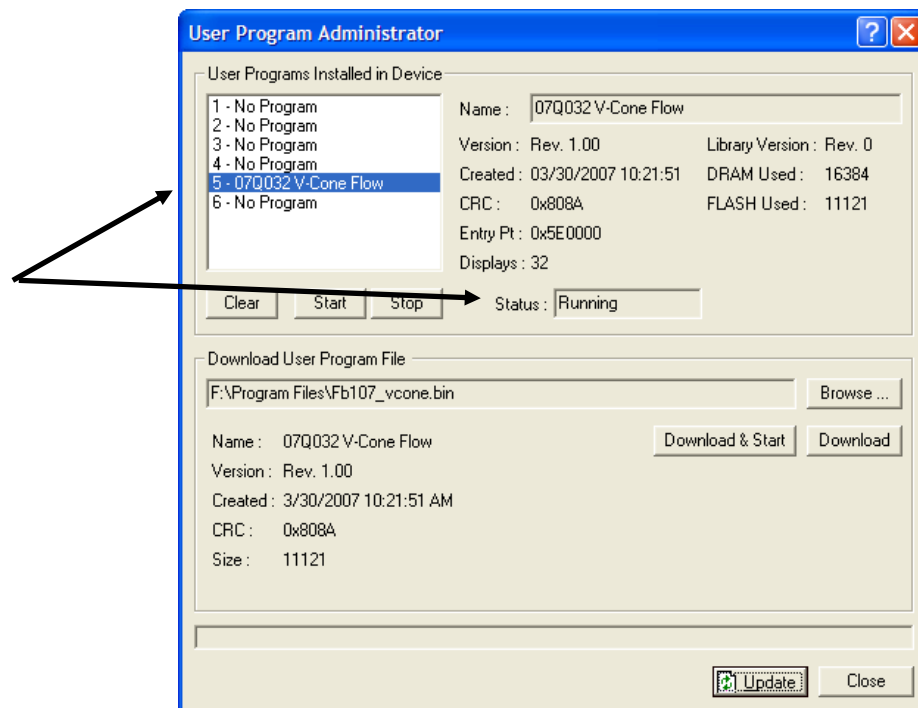

Figure 9-26. User Program Administrator
6. Click **OK**. The User Program Administrator screen displays (see *Figure 9-26*). Note that: